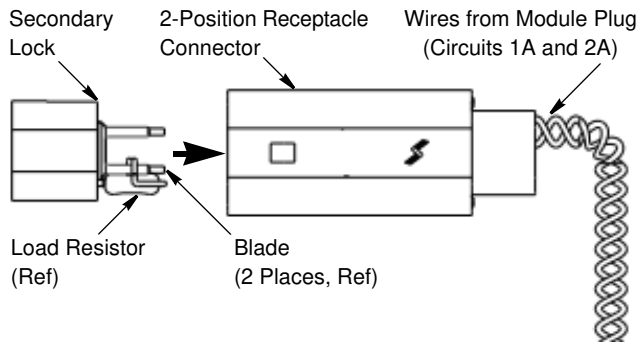

Figure 3
1. Insert the two contacts of the module plug into Circuits 1A and 2A of the 2-position receptacle connector. Refer to Figure 3.